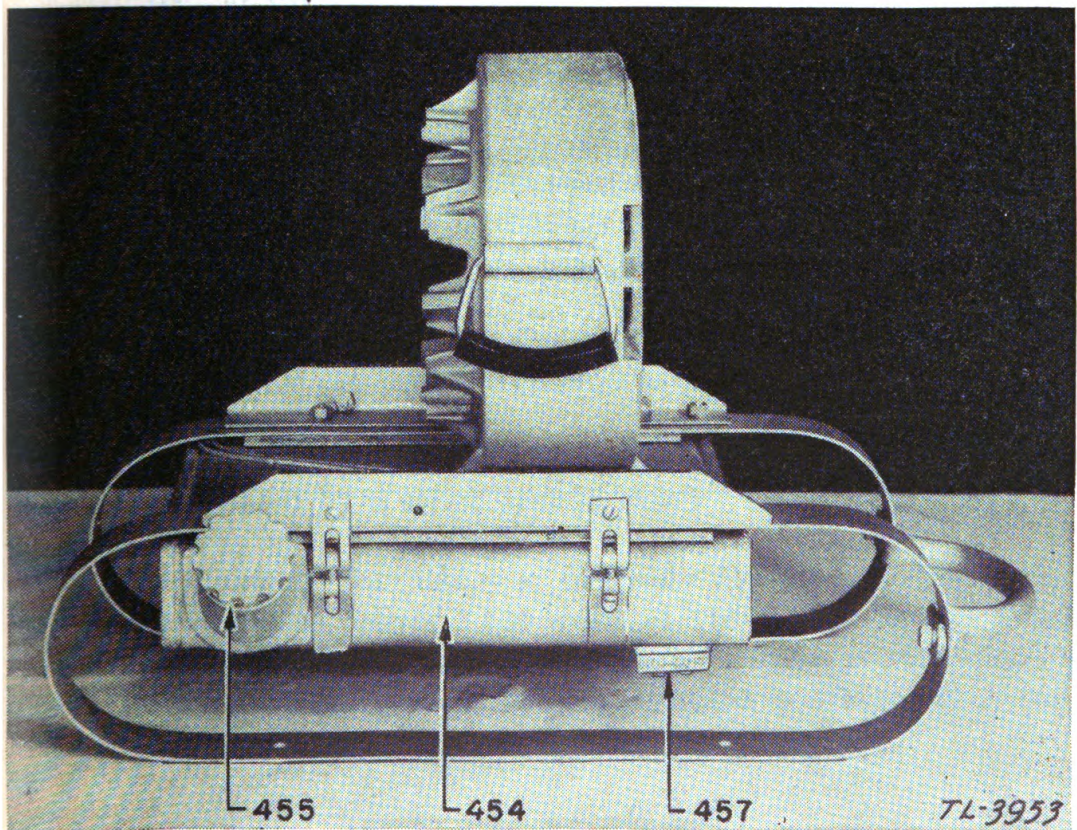

FIGURE 4.—Mounting assembly.
c. Mounting and fuel tank assembly.—This assembly is designed for mounting the gasoline engine and generator to make an integral unit. The assembly consists of a fan housing, spring steel skid mountings, and fuel tank. (See fig. 4.)
(1) *Fuel mixture.*—Remove the fuel tank cap (455, fig. 4) and fill cap twice (capacity $\frac{1}{4}$ pint) with SAE 40 motor oil, thoroughly mixing with 1 gallon of gasoline in a clean can or other container. *For best results use regular gasoline (not high-test).* Lubrication for the entire engine is obtained by mixing oil with gasoline, and it is extremely important that the oil be *thoroughly mixed* with the gasoline. Pour the mixture into the fuel tank (454, fig. 4).